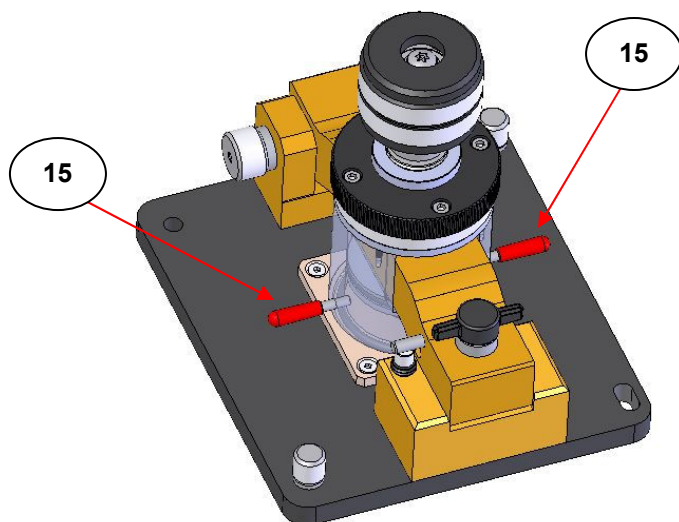

Fig 7. Flow Port Connection Tubes on Envirochamber Golden Gate™ Top Plate
An added feature on the Envirochamber Cap assembly (4) is the inclusion of two flow port connection tubes (15). These 3mm O.D. flow tubes have their own red plastic covers which are kept in position on the flow tubes to isolate the Envirochamber Golden Gate™ top plate when being used for sample environment containment. (See Fig 7.)